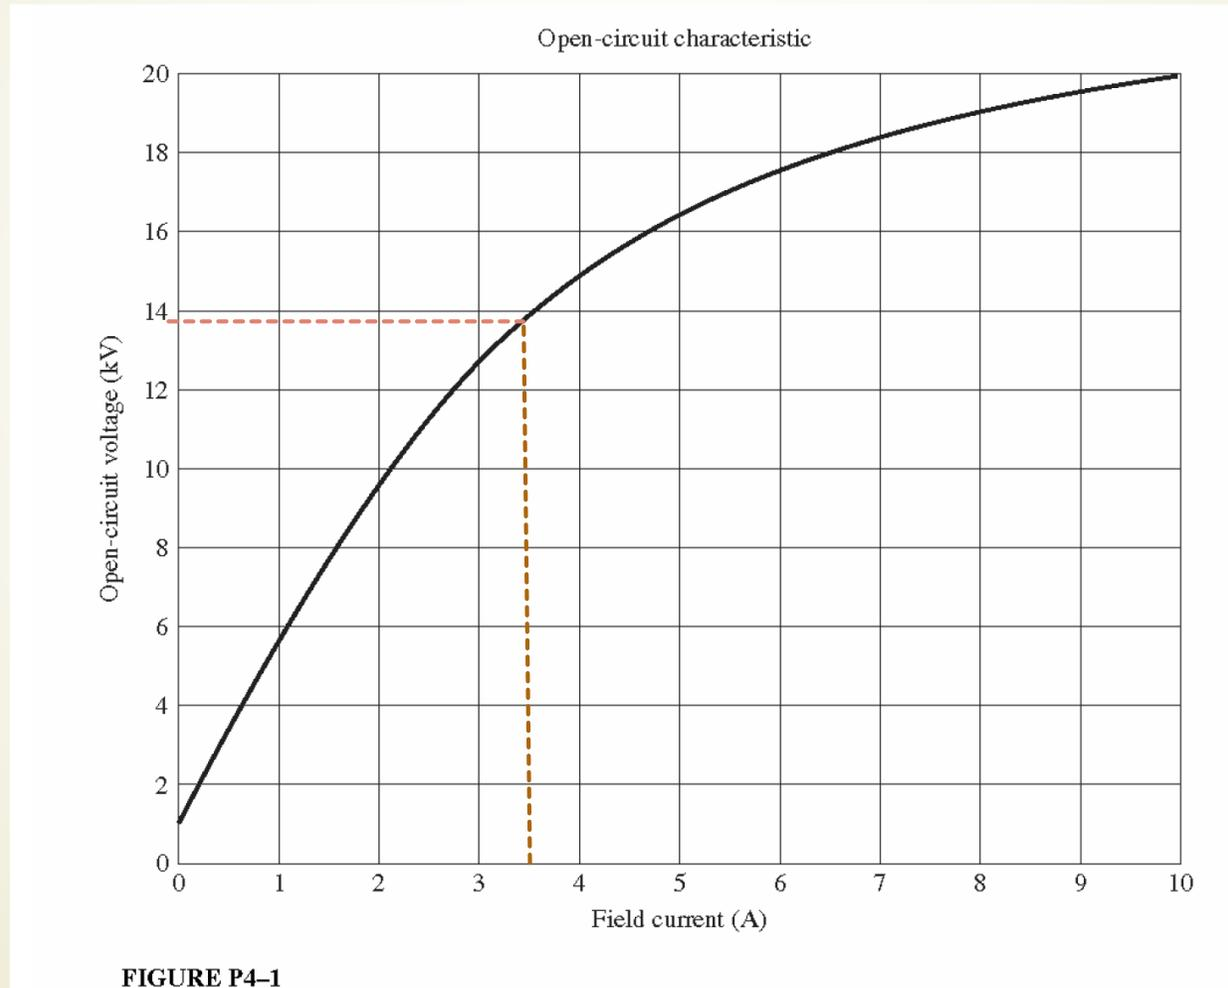

FIGURE P4-1
**4-2.** A 13.8-kV, 50-MVA, 0.9-power-factor-lagging, 60-Hz, four-pole Y-connected synchronous generator has a synchronous reactance of  $2.5 \Omega$  and an armature resistance of  $0.2 \Omega$ . At 60 Hz, its friction and windage losses are 1 MW, and its core losses are 1.5 MW. The field circuit has a dc voltage of 120 V, and the maximum  $I_F$  is 10 A. The current of the field circuit is adjustable over the range from 0 to 10 A. The OCC of this generator is shown in Figure P4-1.